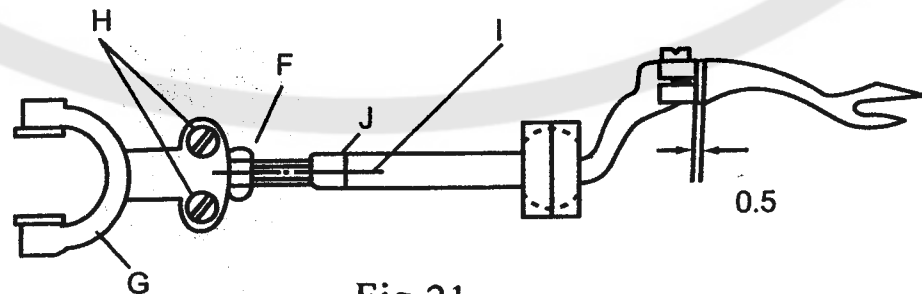

Fig.21
c) Be sure that the short prong of looper passes through the nearest point on the needle guide(K) and if it touches to the needle guide(K), adjust looper ball joint adjusting sleeve (Fig21-D) rightward and leftward or change the timing of the looper.